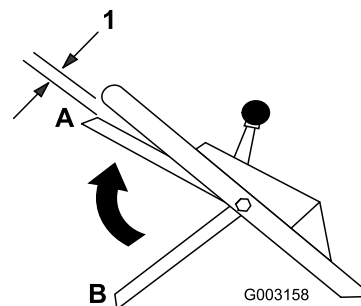

Figure 18
10. Lift the control bar up to about 1 inch (2.5 cm) below the handle; refer to position A in Figure 18.